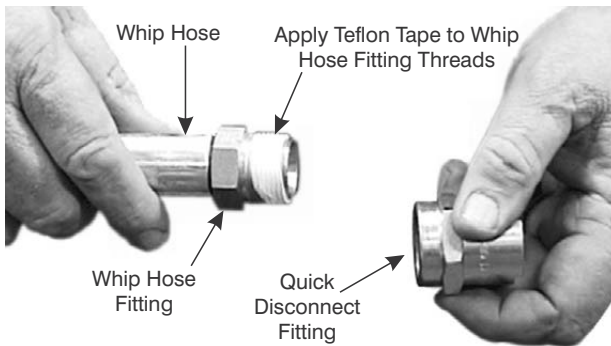

Figure 9-41. Apply Teflon Tape to Hose Fitting.
11. At the free end of the Whip Hose, wrap the external threads of the hose fitting with tape as shown in Figure 9-41.